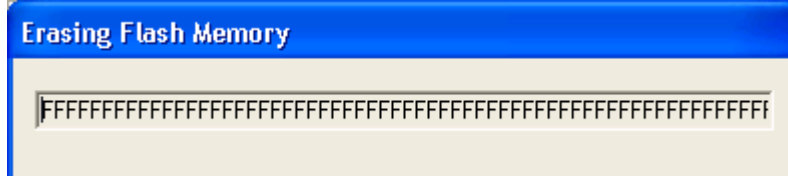

Figure 4
8. **Erase Flash Memory.** Click  on the toolbar. A window, as Figure 4, will pop up. It shows that a flash memory erasing process is in progress. The eeTerminal will update the display window when the erasing process is completed.